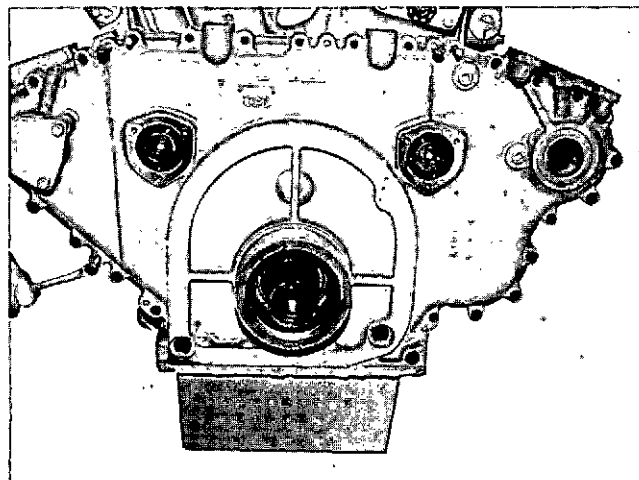

Fig. 0-29, V40062, Removing gear case cover
4. Insert three 3/8-16 capscrews 4 inch [101.6000 mm] long into holes provided in gear case. Fig. 0-29. By alternately turning capscrews the gear case cover will be pulled loose from its dowels. Remove pulley capscrews and slide gear case cover from studs. Remove guide studs.